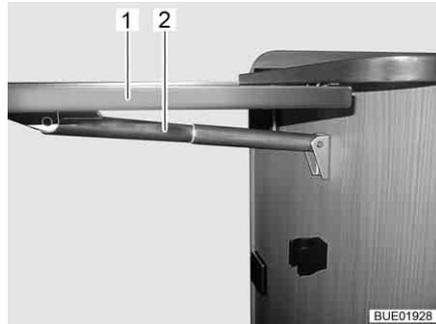

Fig. 26 Folding worktop
- Hold the folding worktop (Fig. 26,1) from below and pull gently to release it from the lock position.
- Swing up the worktop until the fixture of the telescopic holder (Fig. 26,2) engages. Let go of the worktop.